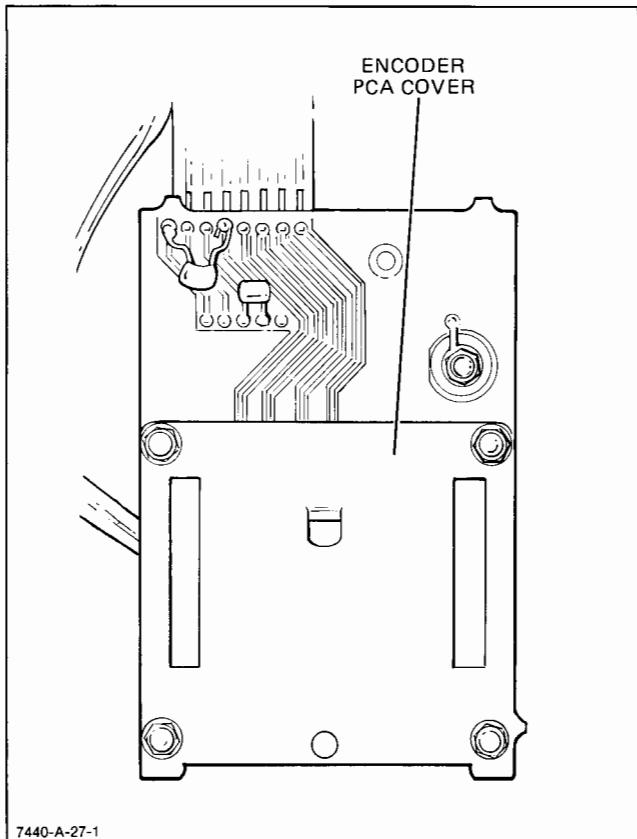
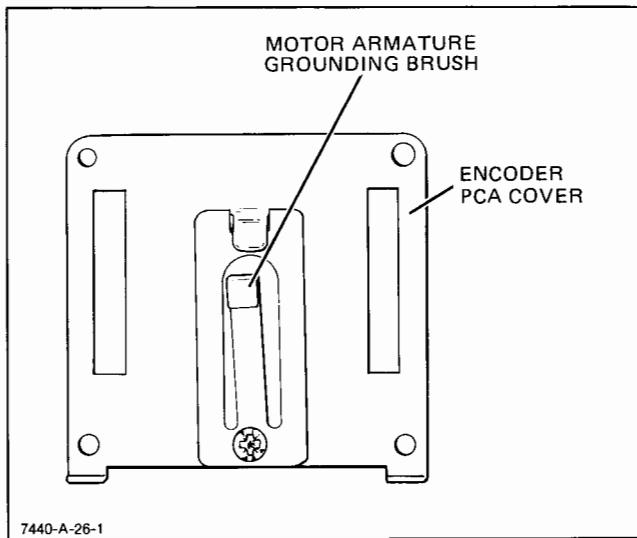
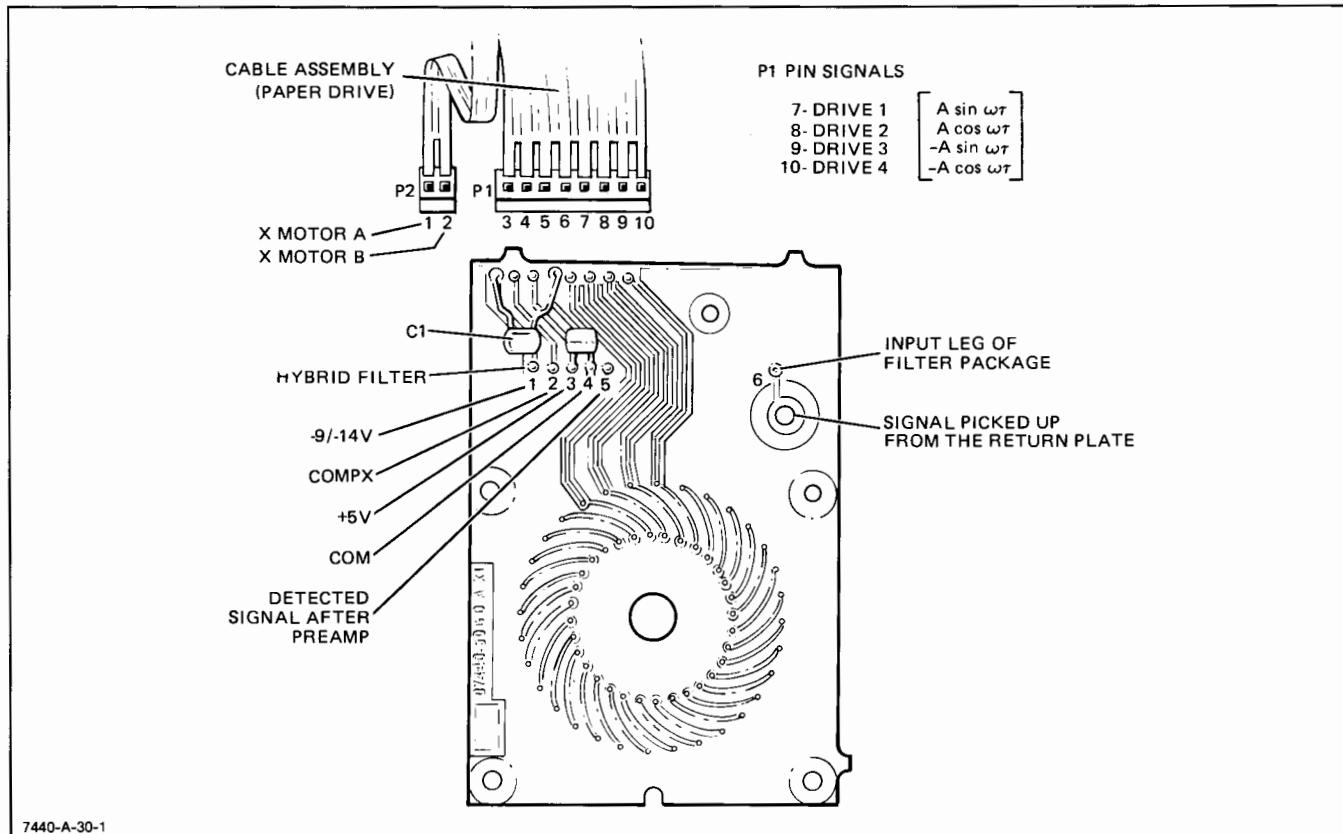

Figure 5-4. Encoder PCA Cover, Outer Side
Figure 5-5. Encoder PCA Cover, Inner Side
Figure 5-6. Encoder PCA, Outer Side
5-95. Figure 5-4 shows the X-Encoder PCA with cover attached. If the four, hex-head screws that fasten the cover were removed and the cover were turned over, the motor armature grounding brush would become visible as shown in Figure 5-5. The sole purpose of the brush is to ground the armature of the motor. When the Encoder PCA cover is removed, the encoder appears as shown in Figure 5-6. Cable connector P1 is shown disconnected from J1 of the Encoder PCA and positioned directly above J1. The pins of P1 are aligned with the pins of J1. The top row of numbers on Figure 5-7 are P1 pin numbers. The second row of numbers on the figure are hybrid filter pin numbers. A single cable connects:
5-98. The signal induced in the sense wheel is a single, phase-shifted, sine wave. This signal is converted to the feedback signal COMPX as follows; a fixed return plate made of conductive material is located just below the sense wheel (see Figure 5-8). The sine wave will be capacitively induced without phase shift from the sense wheel to the return plate. The signal on the return plate is input to a hybrid filter on the Encoder PCA (see Figure 5-6) where it is amplified, shaped and filtered to produce the feedback signal, COMPX. The feedback signal, COMPX, is the square wave used by the Support IC to create a number that represents to the microprocessor the present position of the paper drive (X) motor. The process just described is also used in the pen drive encoder to produce the feedback signal, COMPY.